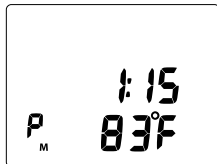

Fig. 94 - GAU DIVE ALT 2
**GAU DIVE ALT 2**, information includes (Fig. 94) -